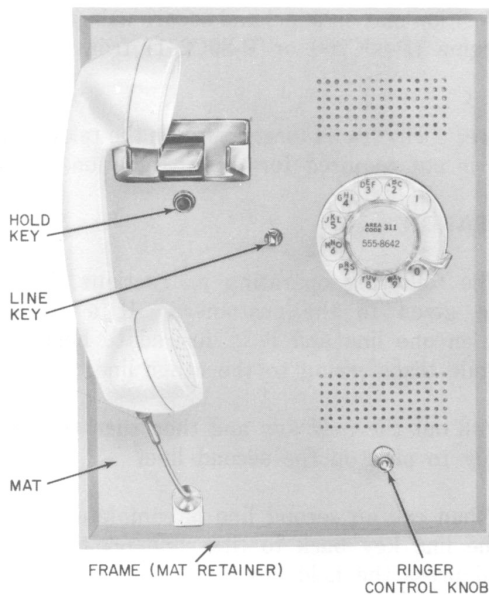

Fig. 1—753-Type Telephone Set
2.05 These sets provide for 2-line pickup with mechanical hold on either line (nonkey system) and are arranged for recessed wall mounting (Fig. 1).
2.06 Component parts (Table A) of these telephone sets are mounted on a steel panel which is secured in an apparatus box. An aluminum mat, retained by a plastic frame, covers the panel and gives the installation a finished appearance (Fig. 1).